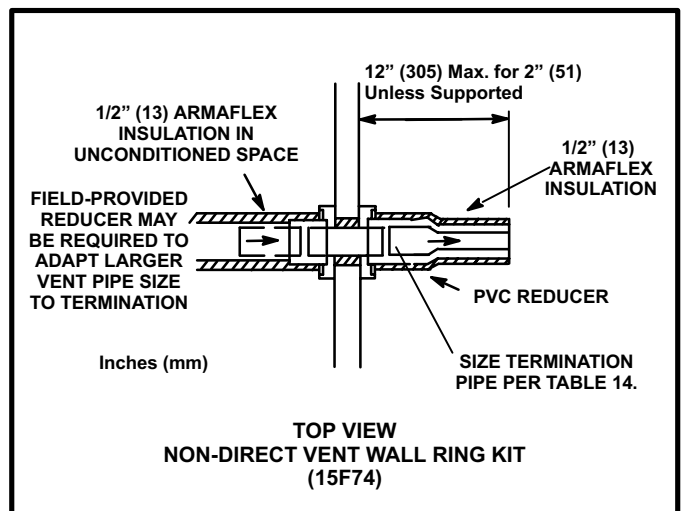

FIGURE 34
2. On field supplied terminations for side wall exits, exhaust piping should extend a maximum of 12 inches (305mm) beyond the outside wall, unless support is provided in the horizontal section. See figure 34.